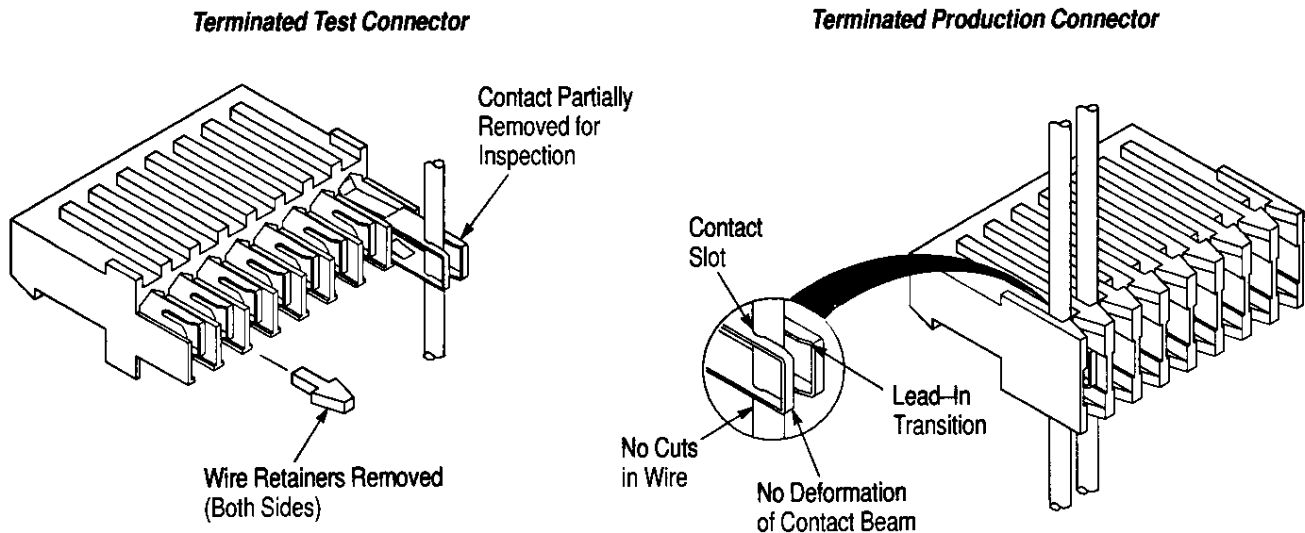

Figure 4
1. Using a small knife, cut off the wire retainers (strain relief) from both sides of the test connector. See Figure 4.
6. Refer to Figure 4 and visually inspect the connector according to the following. If wire insertion depth is found to be improper, refer to Section 5 for head adjustments.